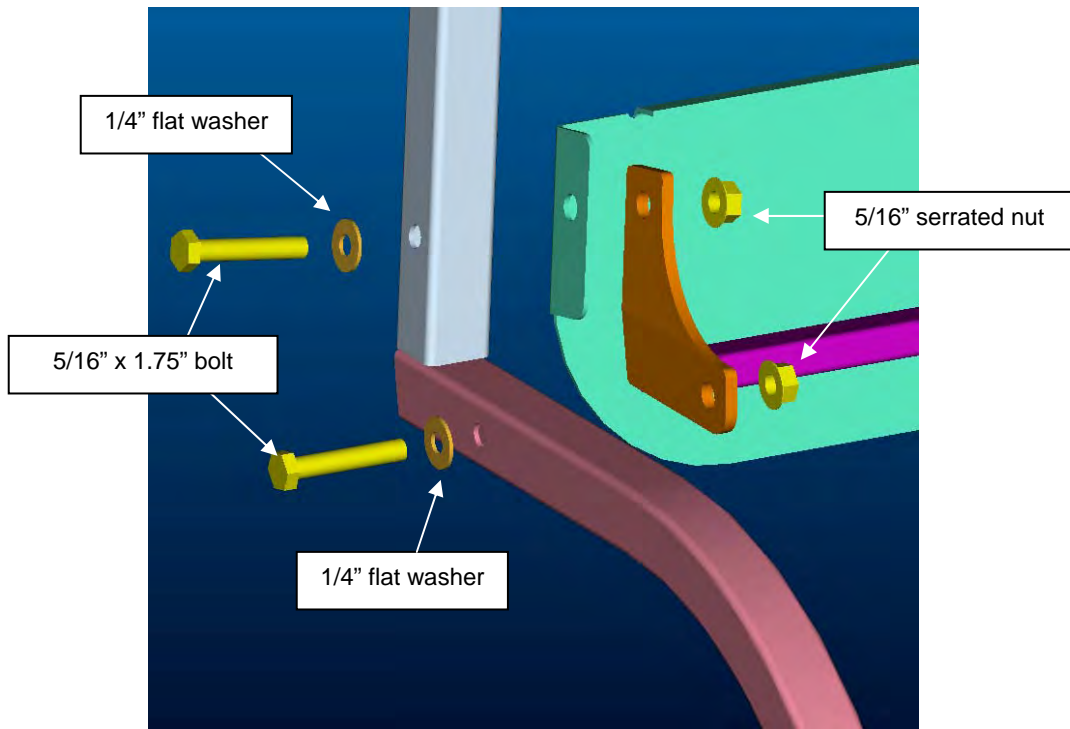

FIGURE 7
11. Attach to the rear side tubes to lower rear panel weldment using (4) 5/16" X 1.75" bolts, (4) two 1/4" flat washers and (4) 5/16" serrated nuts. See figure 7.